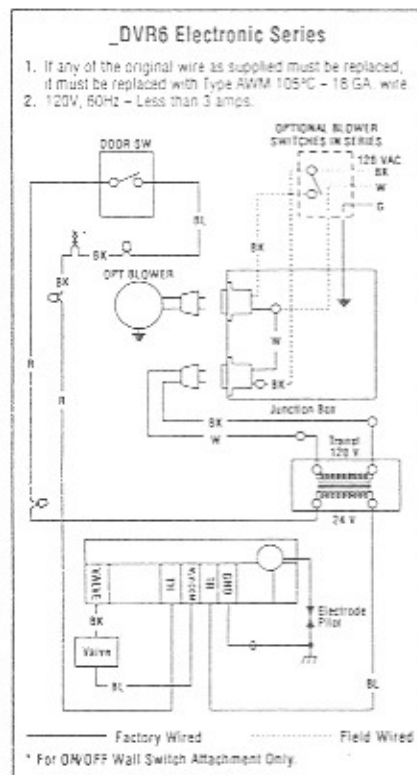

Figure 24
**Step 7. Field Wiring Electronic Appliances** – Regardless of whether an optional forced air blower kit is to be installed now or sometime in the future, the appliance must be connected to the main power supply. To install, route a 3-wire 120V 60Hz power supply to the appliance junction box (located in the lower right side of the appliance) and ground. Also, locate and install the low voltage (24V) wall switch in the desired location, connect the low voltage wire to this switch and/or install thermal snap switch in series. Refer to the installation instructions provided with the forced air kit. (Figure 24).